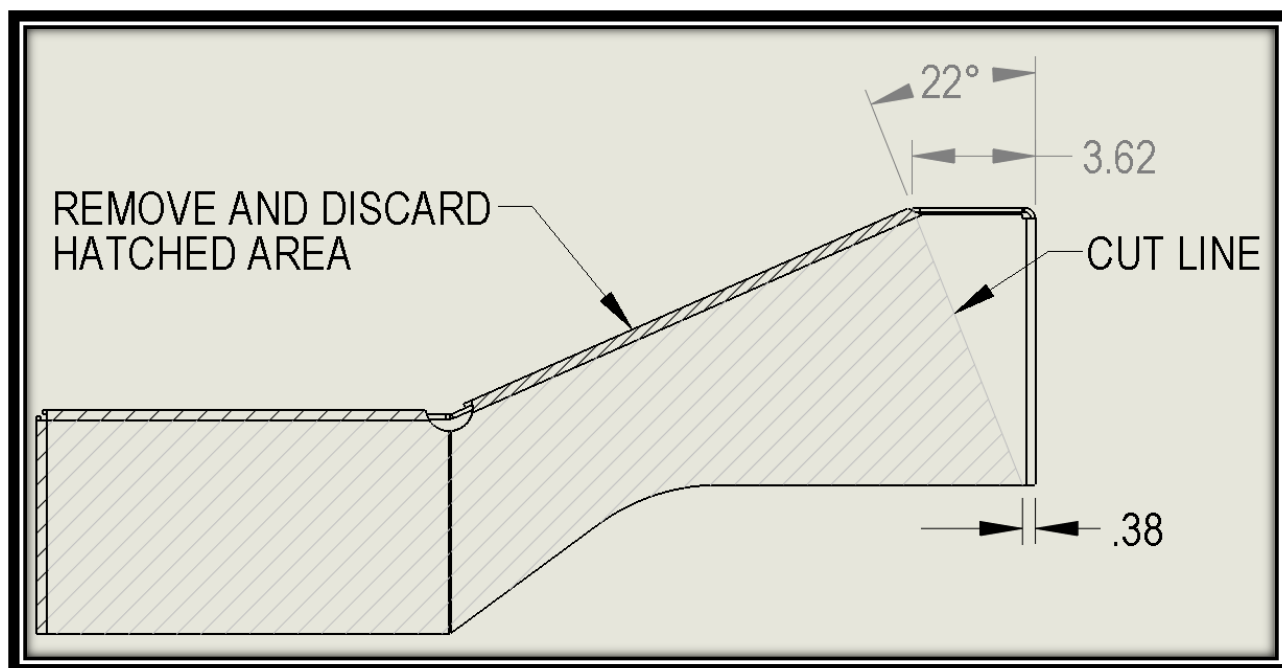

FIG. 3-1
6. Using dimensions provided, layout cut pattern. Refer to FIG 3-1.